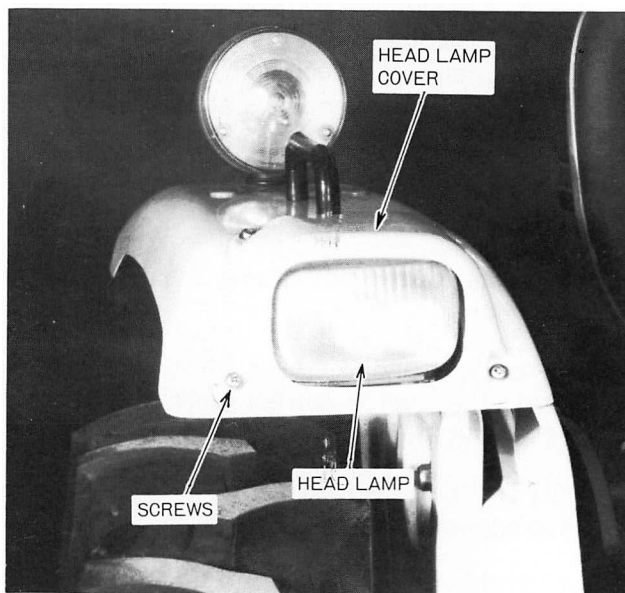

Figure 57 — Headlamp Assembly
1. Remove four screws securing the headlamp cover to fender, Figure 57.